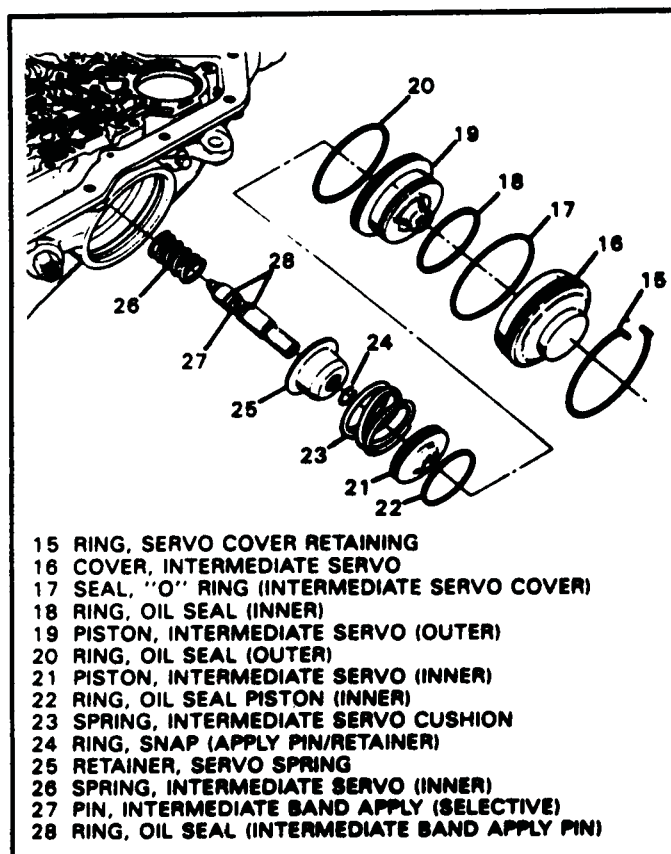

Figure 142
1. Assemble the intermediate servo assembly and use Figure 142 as a guide.
4. Install intermediate servo piston assembly into servo cover, and install the intermediate servo assembly into the case bore (See Figure 142).